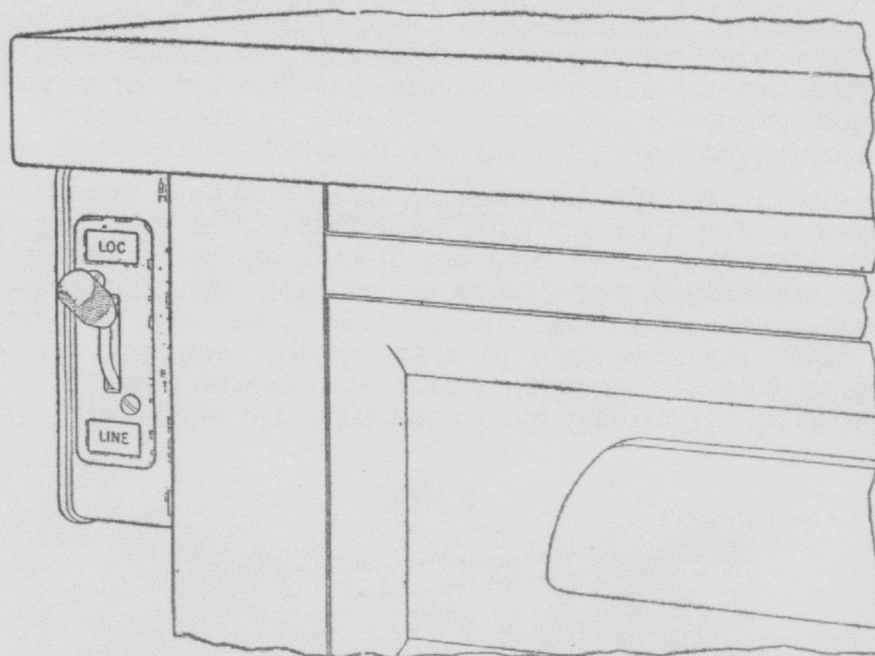

Fig. 2
2.05 The designation strip for the 6017- and 6030-type keys consists of an embossed plate with a slotted hole in the center for the key lever and two windows for the designations, one above and one below the key lever. A cellulose acetate window is also provided with this strip to protect the designation card. Fig. 2 illustrates this strip (coded 98A designation strip) assembled on a 6017-type key. When the strip is assembled to the key, all four of the oval head key unit mounting screws are replaced by screws furnished with the strip.